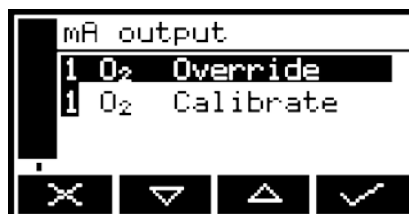

Figure 36 - The mA output service screen
1. Press the  soft key to display the Menu screen, use the  and  soft keys to highlight the "Service" menu option, then press the  soft key. The mA output service screen will then be displayed: see Figure 36.
4. When the milliamp output has been correctly calibrated, press the  soft key: the mA output service screen (Figure 36) will then be displayed again.